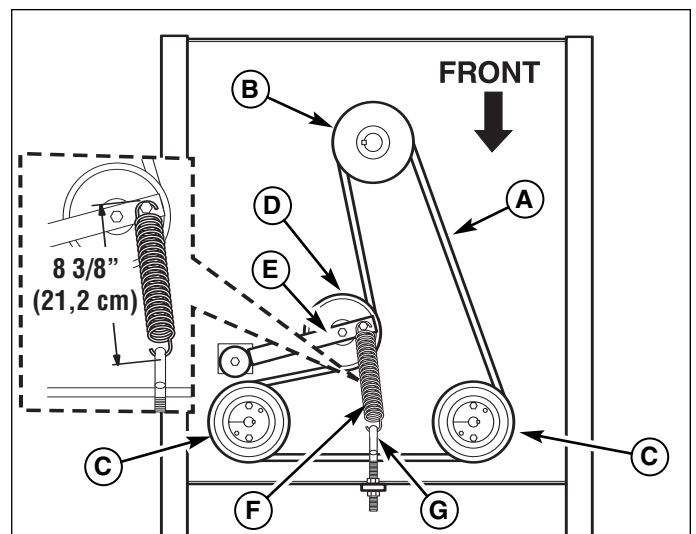

Figure 1. Hydraulic Pump Drive Belt Replacement
4. Loosen the nut towards the front of the machine on the spring anchor hook (G, Figure 1) to release the majority of the belt tension. Use caution and remove the nut to completely release the tension.
6. Reinstall the anchor hook (G) into the anchor tab and loosely fasten the nut. Adjust the anchor hook until a measurement of 8-3/8" (21,2 cm) is achieved from the outside of the spring hooks. Tighten nut.